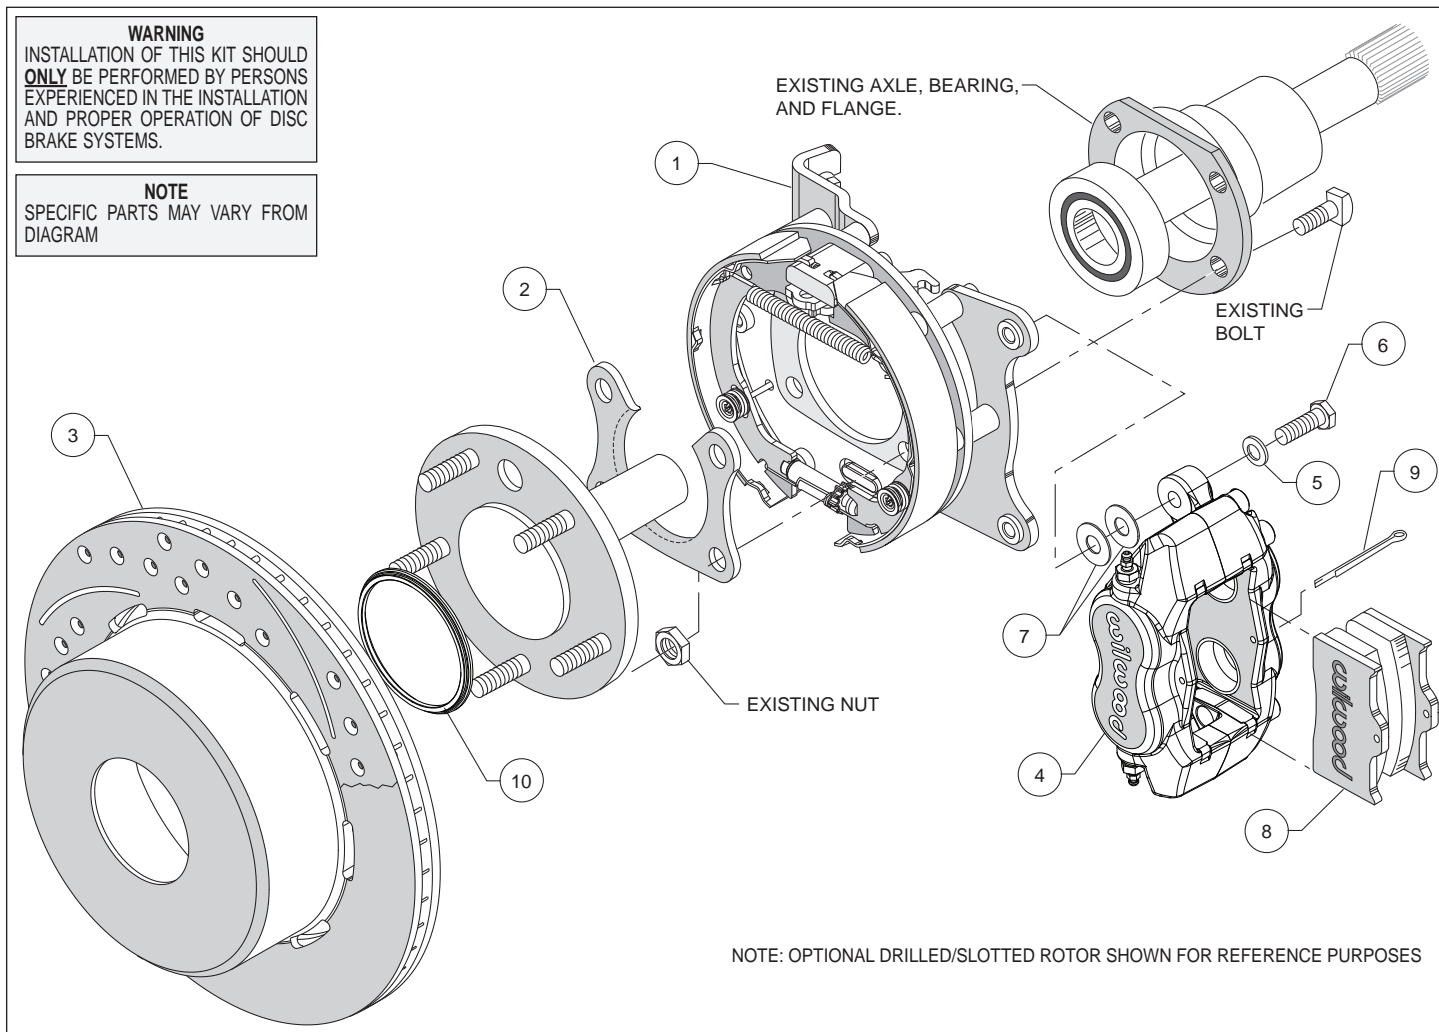
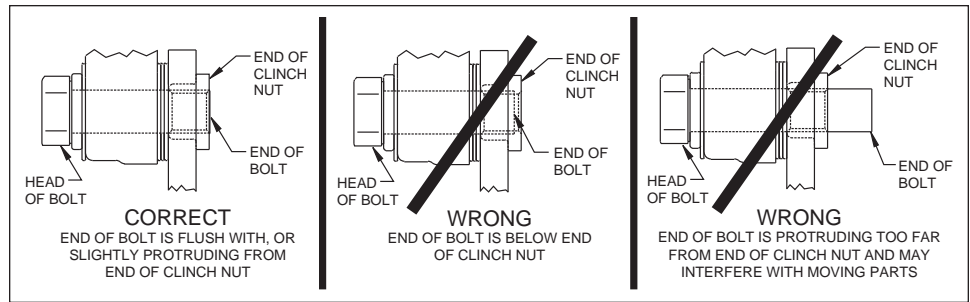

Figure 1. Typical Installation Configuration
Figure 5. Clinch Nut Engagement Diagram
Assembly Instructions (numbers in parenthesis refer to the parts list, and Figure 1 on the preceding pages): **CAUTION:** All mounting bolts must fully engage clinch nuts. Be sure to check that all bolts are either flush or protruding through flanged side of clinch nut after shimming, Figure 5.
- Orient the bracket assembly (1) as shown in Figure 1 and Photo 1 and slide it onto the axle. Insert the axle and bracket into the axle housing. Ensure that the bracket assembly backing plate fits flush against the axle housing flange.
- Install the bearing retainer (2) with the opening pointing upward and the lip facing inward (toward the bearing), as shown in Figures 1 and 4, and Photo 2. Secure retainer and bracket assembly to the axle housing flange using the Original Equipment Manufacturer (OEM) bolts and nuts, Figure 1. Apply red *Loctite*® 271 to the OEM bolt threads and torque to OEM specifications.
- Slide the rotor registration adapter (10) onto the axle register on the axle flange with the smaller O.D. facing toward the rotor/hat (3), Photo 3. **NOTE:** Verify axle stud size and pattern. Then have a qualified machine shop drill the bolt circle of the hat/rotor to the correct stud size and pattern. Slide the hat/rotor into place, Figure 1 and Photo 4. **NOTE:** The rotor/hat must fit flush against the axle flange or excessive rotor run out may result. Install three lug nuts (finger tight) to keep the rotor/hat assembly in place while continuing with the installation.
- NOTE:** Please reference the caution statement at the beginning of the assembly instructions. Mount the caliper (4) onto the caliper mounting bracket (1) using bolts (6) and washers (5), as shown in Figure 1. Initially place two .035" thick shims (7) on each bolt between the caliper and the bracket, Photo 5. Temporarily tighten the mounting bolts and view the rotor (3) through the top opening of the caliper. The rotor should be centered in the caliper, Photo 6. If not, adjust by adding or subtracting shims between the bracket and the caliper. Always use the same amount of shims on each of the two mounting bolts. **NOTE:** The end of each bolt must be flush with or slightly protruding from the head of the clinch nut, as shown in Figure 5. If necessary place spare shims between washer (5) and caliper mounting ear to achieve the proper clinch nut engagement. Once the caliper alignment and clinch nut engagement are correct, remove the bolts one at a time, apply red *Loctite*® 271 to bolt threads, and torque to 40 ft-lb.